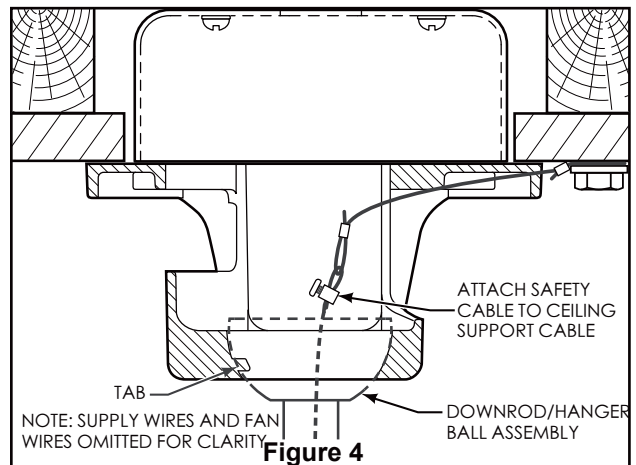

Figure 4
4. Carefully lift the fan and seat the downrod/hanger ball assembly on the hanger bracket that was just attached to the ceiling joist. Be sure the groove in the ball is lined up with tab on the hanger bracket. (Figure 4)
5. Attach the safety cable to ceiling support cable. Slide cable clamp onto safety cable (from fan). Place the end of cable through the loop of ceiling support cable. Pull as much cable through loop as possible. Feed end of cable into clamp hole and firmly tighten screw (Figure 4). Cut off excess safety cable.